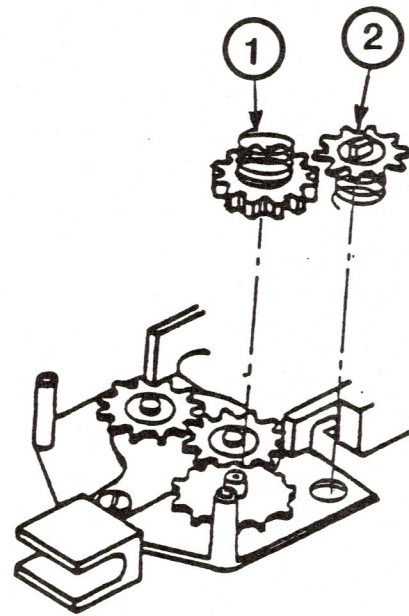

FIGURE 4
**NOTE:** There are springs beneath the cassette mount plate (See Figure 4). They may pop out when you lift up the mount plate.
8. Pull up the ratchet gear and ratchet spring. (See Figure 4, #1.) If they don't come off easily, carefully pry them off with a flat blade screwdriver.
9. Pull off the cassette drive gear and the ribbon spring. (See Figure 4, #2.)